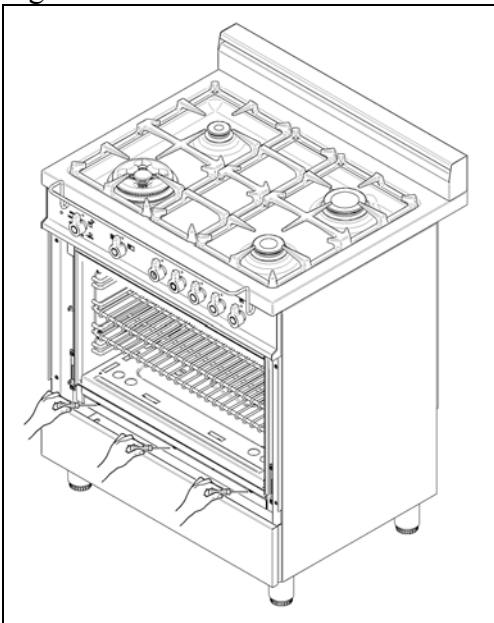

Fig. 10
- 2) Remove the lower frontal cavity gasket and the enamelled cavity base plate (Fig. 10)